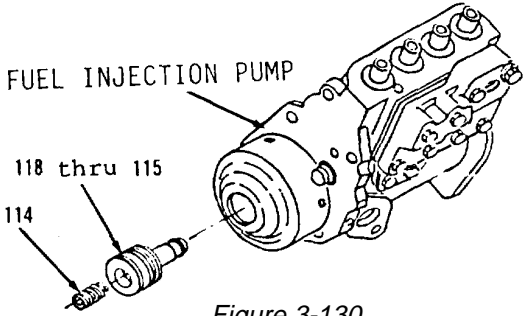
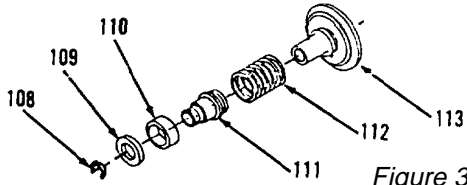

Figure 3-130.
Figure 3-129.
- 11. Install items 118 thru 115 as an assembly (Figure 3-130) in fuel injection pump.
- 12. Using clean oil, lubricate spring (114) and install.
- 13. Install spring (112) on seat (113, Figure 3-129).
- 14. Install seat (111) in spring (112).
- 15. Position spool (110) and ring (109) on seat (111).
- 16. Install ring (108) in seat (111).